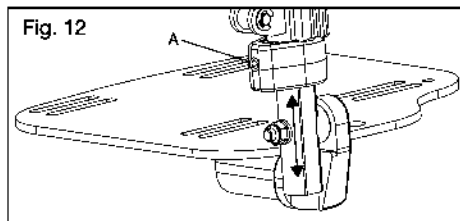

Fig. 12
- a. Loosen the set screw (Fig. 12:A) with a 4mm Allen wrench.